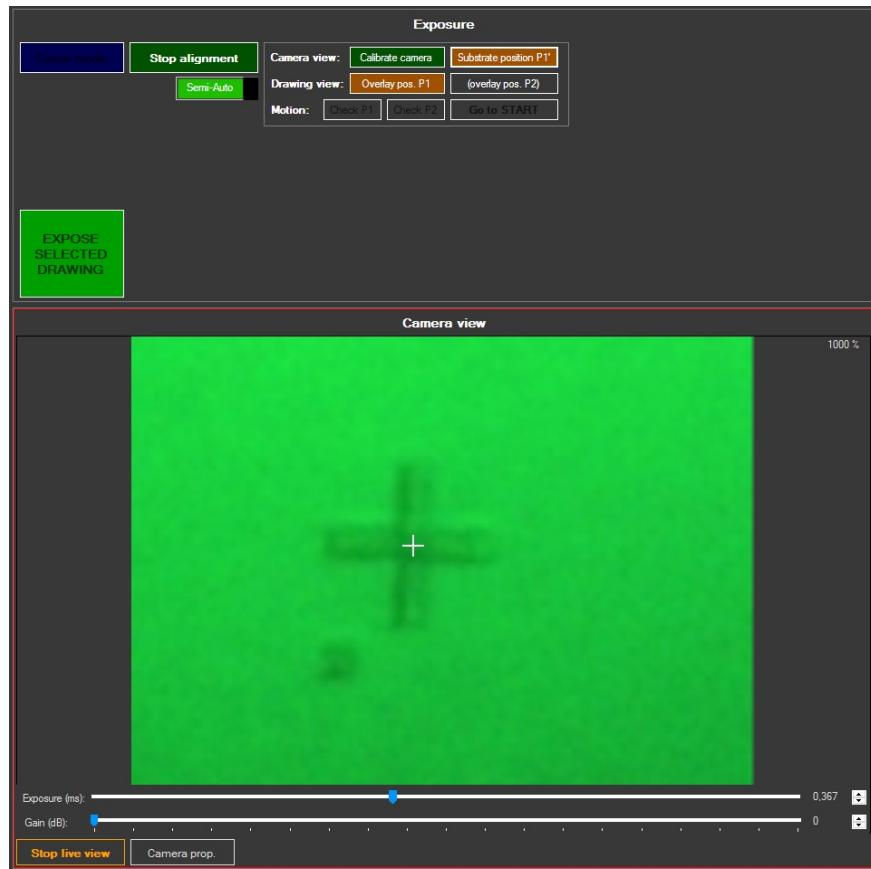

Figure 50 - Semi-auto alignment: defining point P1'
- Selection of point P1' (Figure 48b): click on **Substrate position P1'**. As for the previous step, the camera live view may start and the mouse cursor shape may change. Move the stage (see section 4.1.1) until the first patterned cross is visible (numbered "1" in this example), then click on its center (point P1') as shown in Figure 50